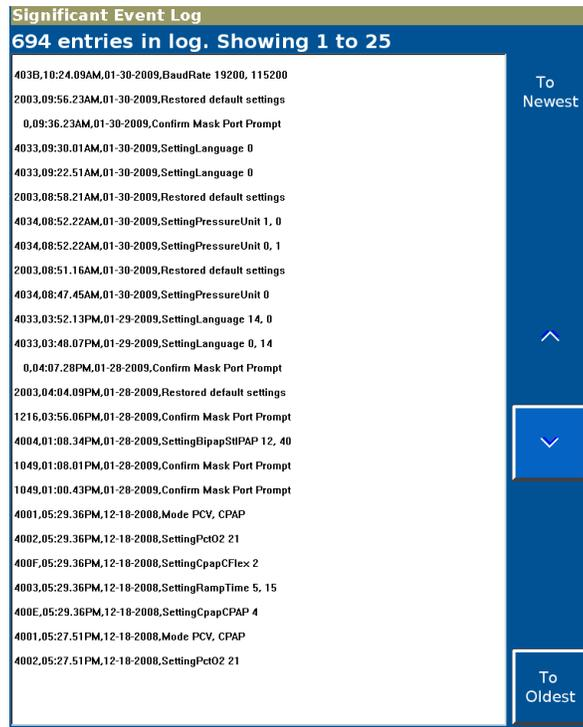

Figure E-12: Significant Event Log screen
3. The **Significant Event Log** opens (Figure E-12). Use the buttons on right side to navigate through the log.